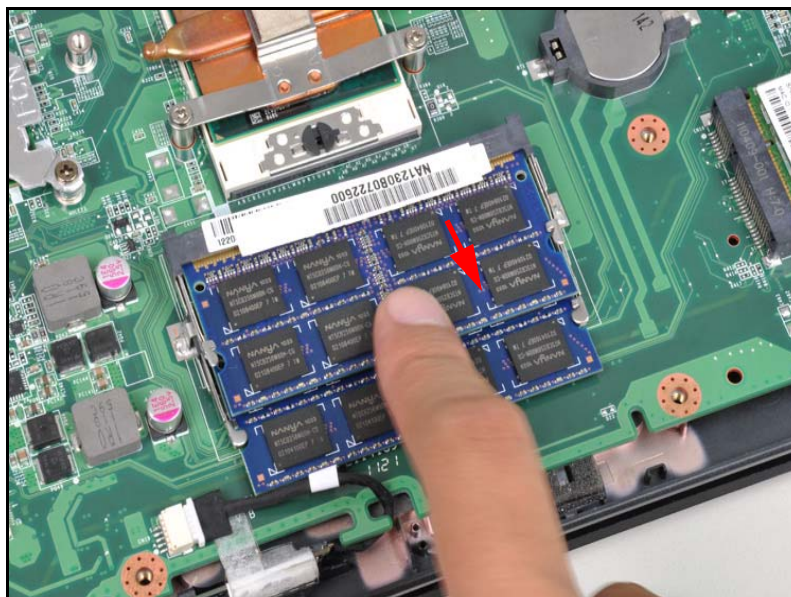

Figure 3-33. DIMM Removal
1. Push out the release latches on both sides of the DIMM socket to release the DIMM module (Figure 3-33).